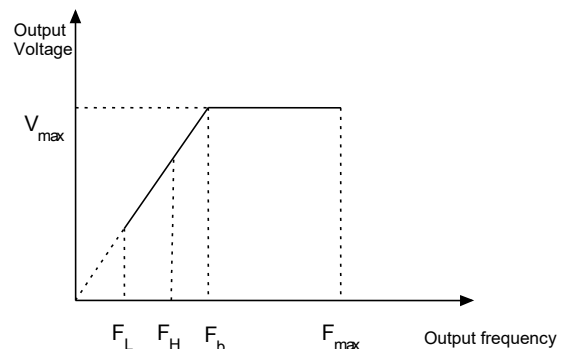

Fig.6-1 Characteristic parameters
Max output frequency is the highest permissible output frequency of the drive, as shown in Fig. 6-1 as F_{max} ;
Max output voltage is the highest permissible output voltage of the drive, as shown in Fig. 6-1 as V_{max}
Upper limit of frequency is the highest permissible operating frequency of the user setting, as shown in Fig. 6-1 as F_H .
Lower limit of frequency is the lowest permissible operating frequency of the user setting, as shown in Fig.6-1 as F_L .
As shown in Fig. 6-1 as F_b , Basic operating frequency is the Min. frequency when the drive outputs the max voltage in V/F mode.
- 4 . The Max. output frequency, upper limit frequency and lower limit frequency is as shown in Fig.6-1.